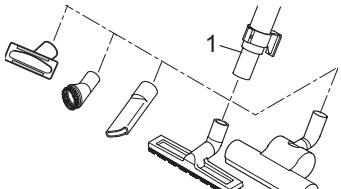

Fig.9
3. Push the desired nozzle onto the lower end of the telescopic tube or if necessary directly onto the handle (Fig. 9).